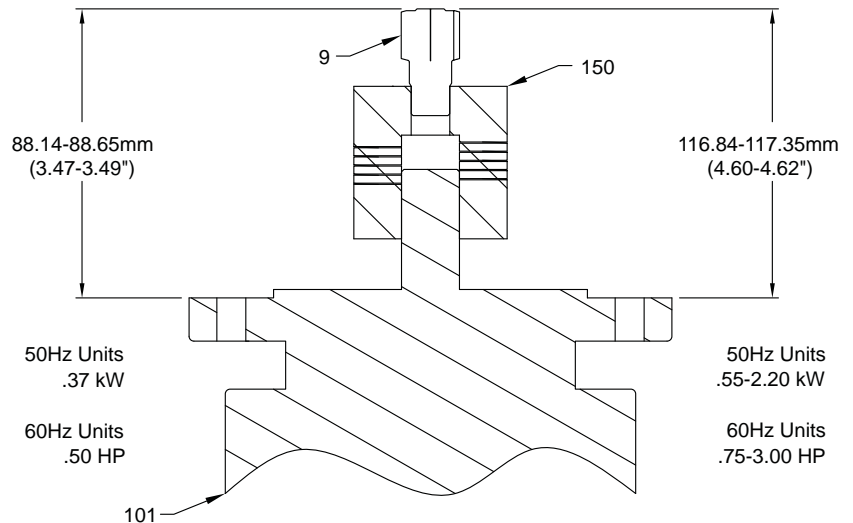

Figure 12 – Sun Gear Placement
- f. 50Hz Units, 2.20kW and 60Hz Units 3.00 HP: Install the key (27) in the quill shaft (35). Align the keyway in the gear carrier (1) with the keyway on the quill shaft (35).
- a. Assemble the sun gear (9), the drive coupling (150) and key (Item 107 – On all models except: 50Hz .37kW and 60Hz .50 HP sizes) until the sun gear shoulders against the drive coupling. Tighten the set screws.
- b. Set the elevation of the sun gear to the dimension shown in Figure 12, and tighten the remaining set screws.